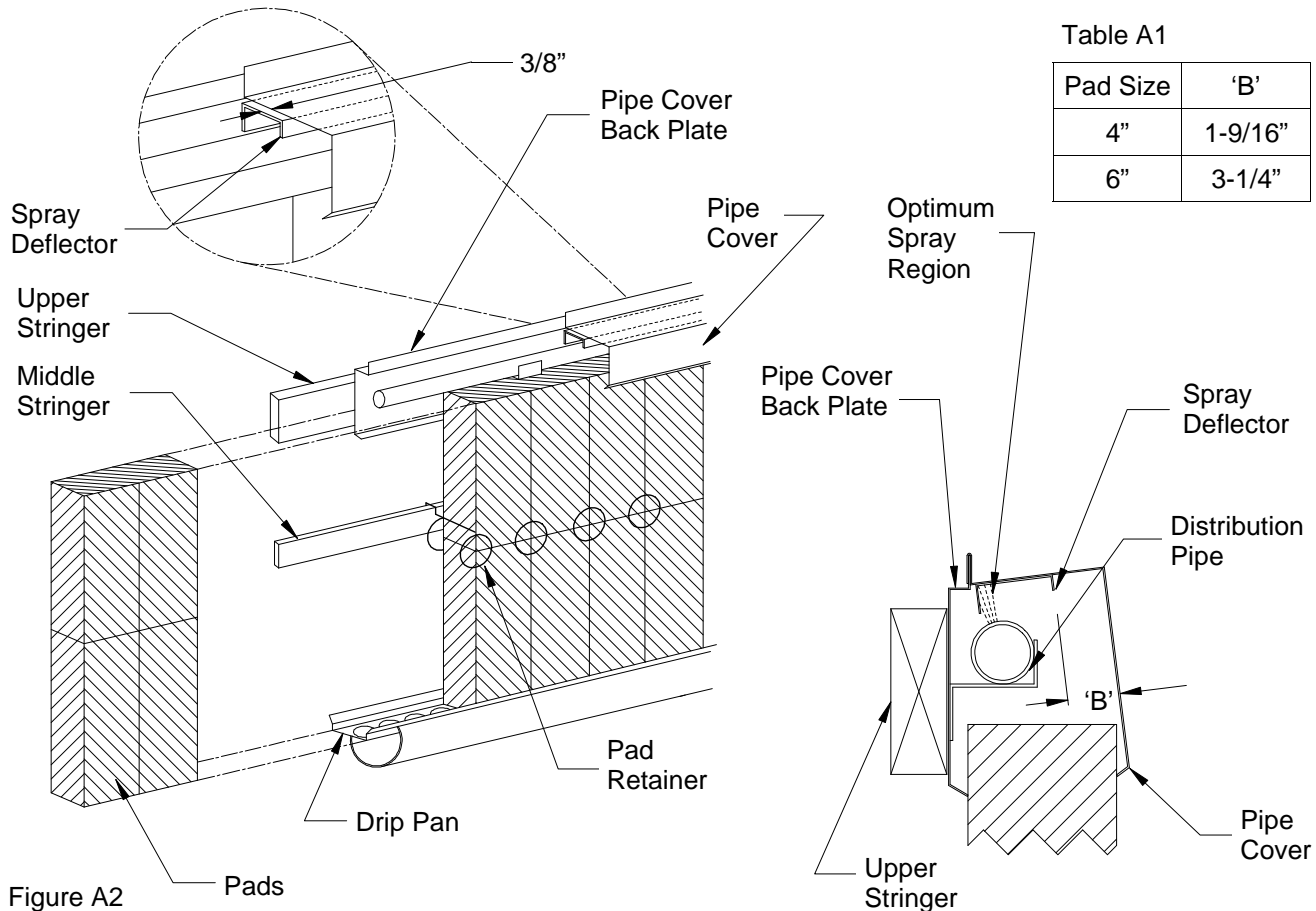

Figure A2
**Note:** For installation on the inside of a building, the spray deflector should be rotated 180° so that the long leg of the channel is on the side toward the upper stringer, opposite of what is shown. See Appendix A, Figure A2. Also, see Appendix A, Table A1 for appropriate 'B' dimensions.